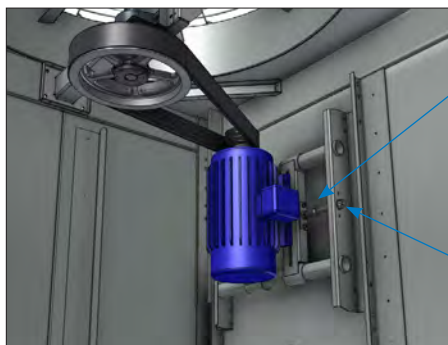

Figure 5. Independent Drive Adjustment
- **Independent Drive Adjustment:** If the motor needs to be adjusted, loosen the lock nut first, then adjust the motor base (see **Figure 5**).